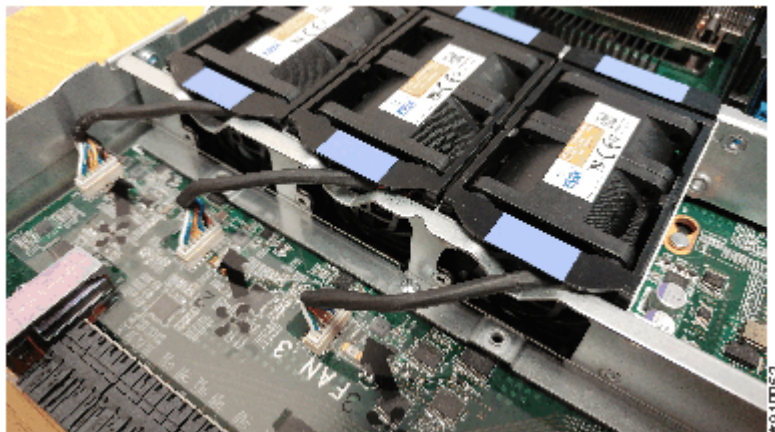

Figure 84. Aligning the cable connector
7. Install the replacement fan module into the vacant fan slot. The cable must face toward the canister front. Be careful to ensure the connecting cable passes over the air dam at the V-shaped indent, as shown in Figure 84 on page 139. Ensure that the cable is not caught under the fan module.